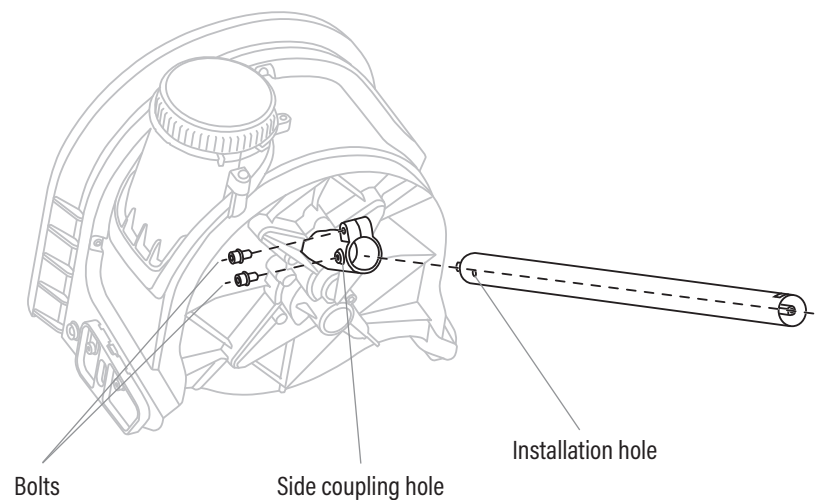

Fig. 1
2. Align the round hole on the new aluminum shaft with the side coupling hole on the gear attachment. (Fig. 1)